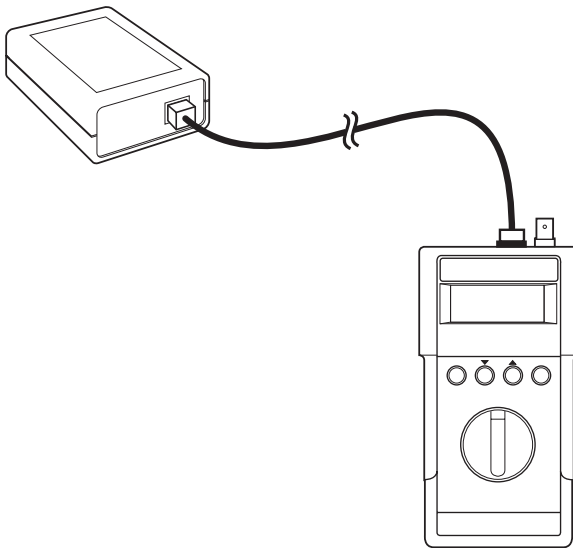

Fig. 3-2. Testing Twisted-Pair Cables.
- Set the rotary function selector to AUTOTEST. The display shown in Fig. 3-2 will appear. The currently selected cable type will be shown in the bottom line of the display.